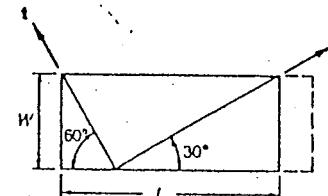

Fig. P2.38
2.38. A thin rectangular plate is deformed uniformly into another rectangle as shown in Fig. P2.38. The extensional strain along its length is .02 and the width remains unchanged. Compute approximately the shear strain γ_{tt} .